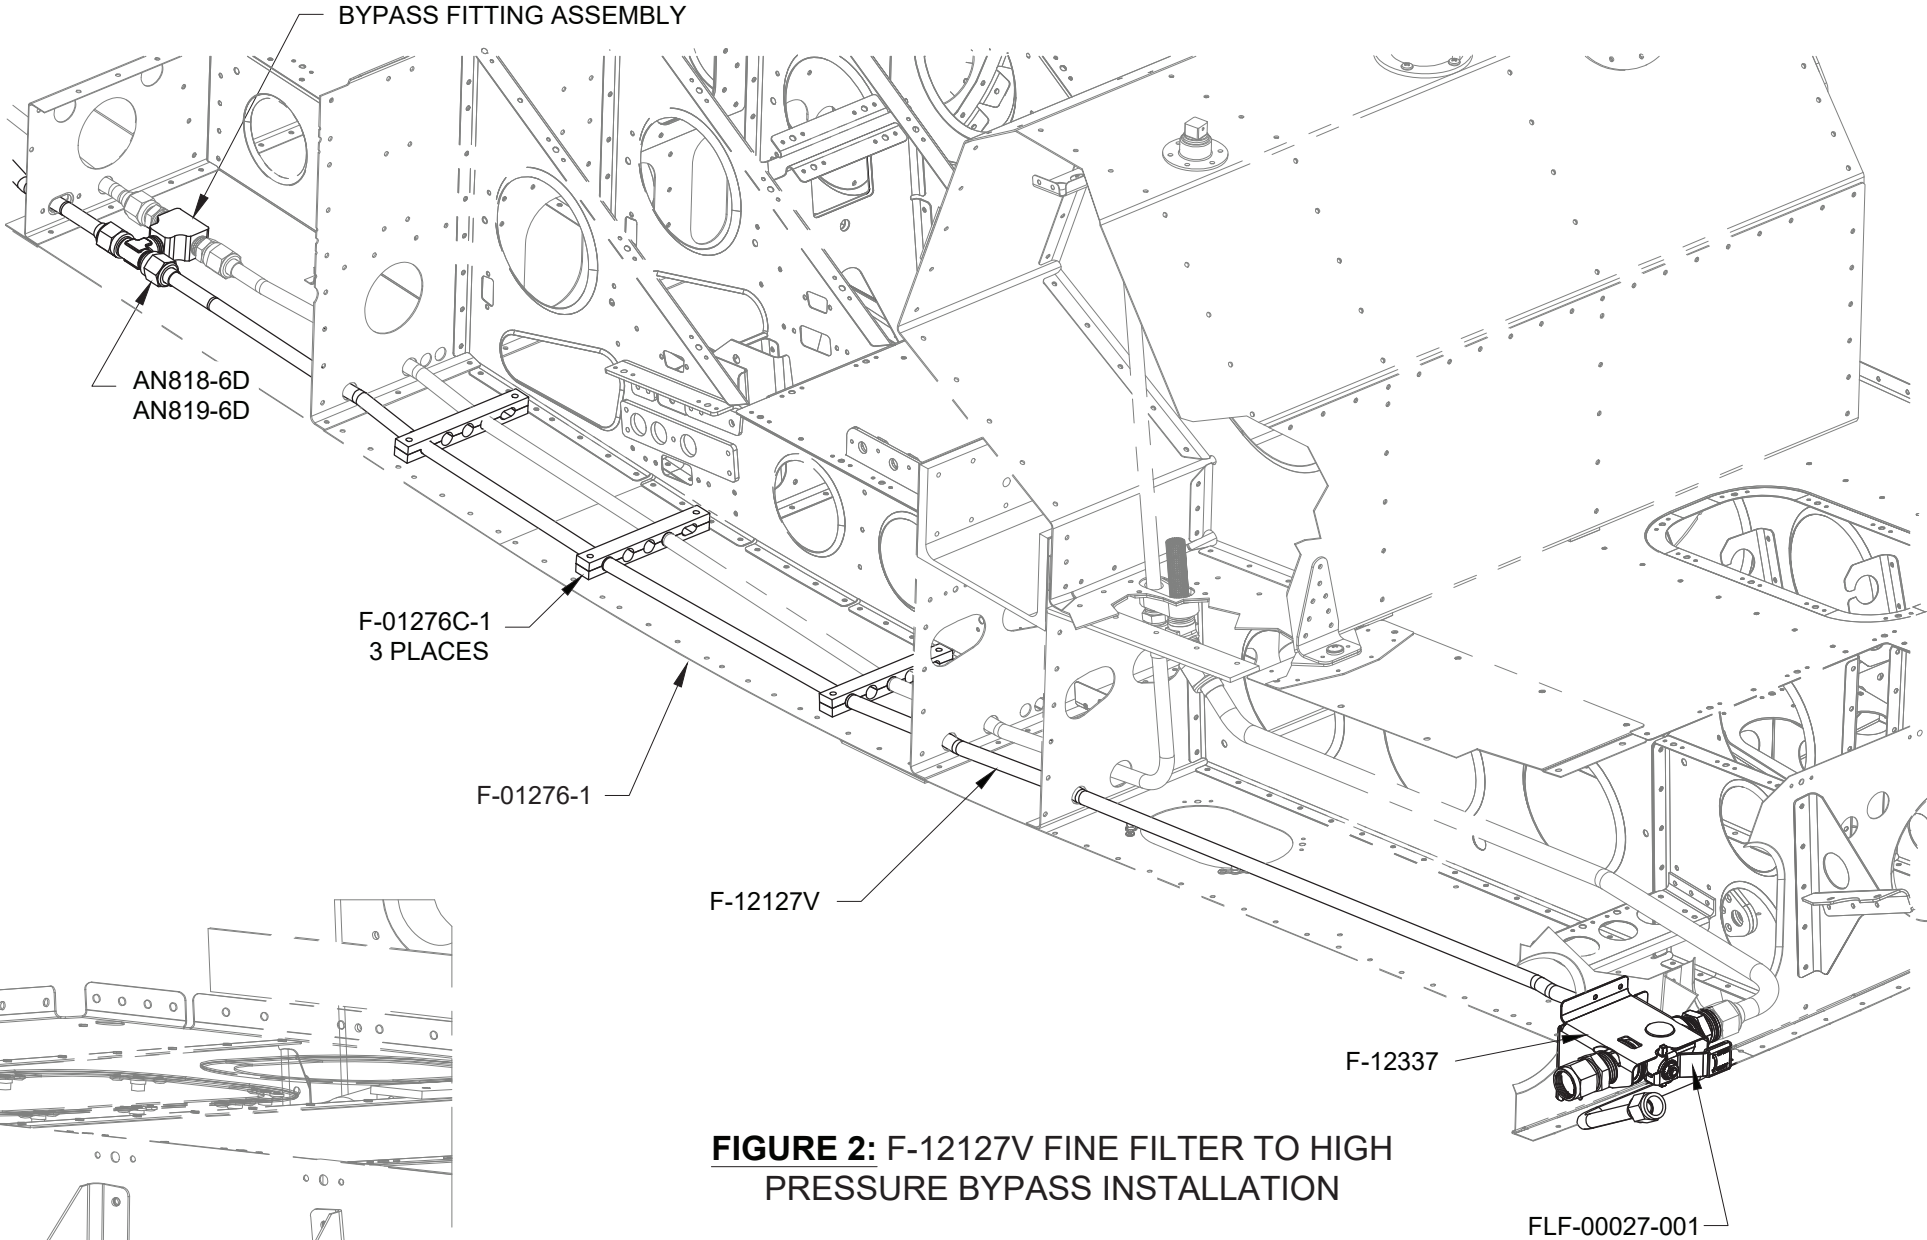

FIGURE 2: F-12127V FINE FILTER TO HIGH PRESSURE BYPASS INSTALLATION
Step 2: Attach the F-12127V to the Bypass Fitting Assembly as shown in Figure 2. A small amount of bending/adjustment by hand is acceptable.